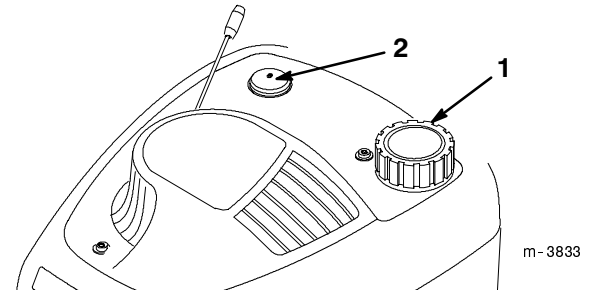

Figure 9
6. Clean around the fuel cap (Fig. 9).
3. Push the primer three times, waiting about two seconds between each push (Fig. 9).